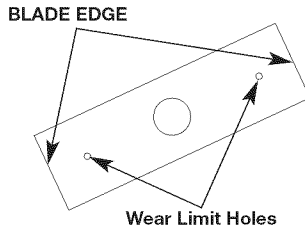

Fig. 15
- Check the blade condition. As it wears it becomes smaller, thus reducing the cutting depth performance. Replace with a new blade when the blade has worn to the blade's wear limit holes (Fig. 15).